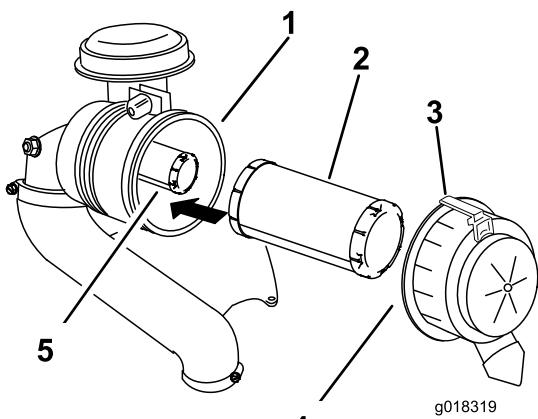

Figure 45
2. Pull the latch outward and rotate the air cleaner cover counterclockwise (Figure 45).
3. Remove the air cleaner cover from the air cleaner housing (Figure 45).
- Gently slide the primary filter out of the air cleaner housing (Figure 45).
- If the safety filter is being replaced, carefully slide it into the filter body (Figure 45).
- Carefully slide the primary filter over the safety filter (Figure 45).
- Install the air cleaner cover with the side indicated as **up** facing upward and secure the latch (Figure 45).